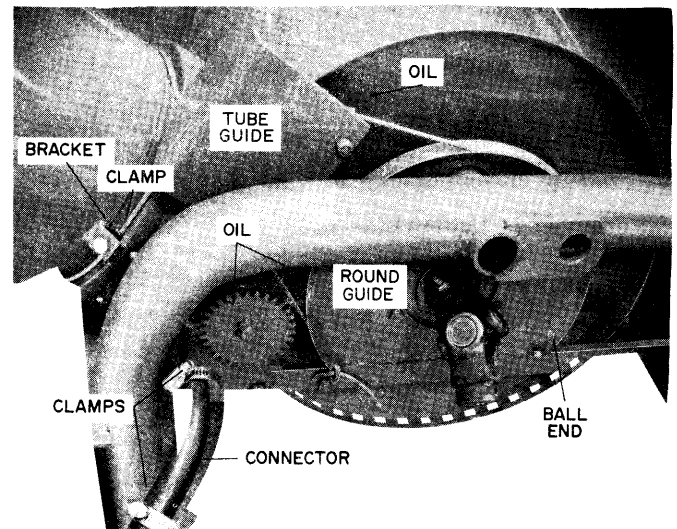

fig 3
### WIRE ROPE ROUTING, FIG 3
- ### FINAL ASSEMBLY, FIG 3